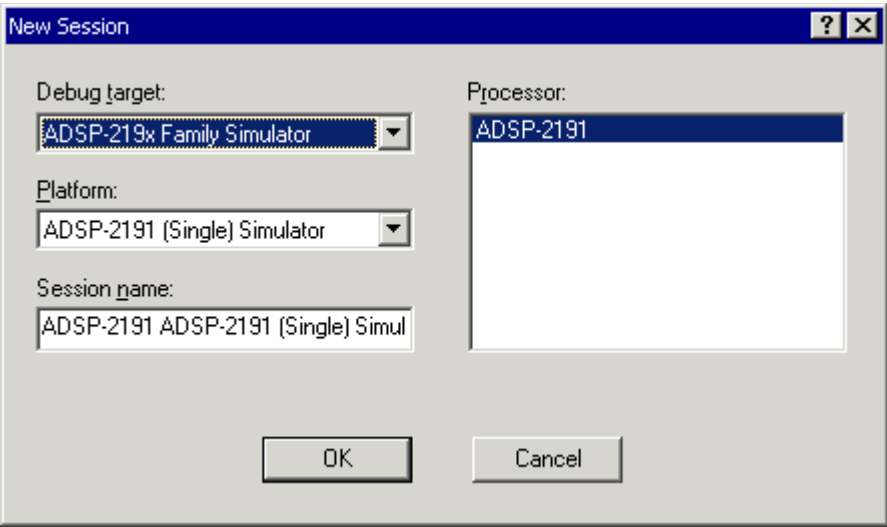

Figure 2-6. New Session Dialog Box
If you are running VisualDSP++ for the first time, the New Session dialog box (Figure 2-6 on page 2-11) opens to enable you to set up a session. Select the values shown in Table 2-1 on page 2-11. Then click **OK**. The VisualDSP++ main window appears.
1. In the **Session List** dialog box, click **New Session** to open the **New Session** dialog box, shown in Figure 2-6 on page 2-11.